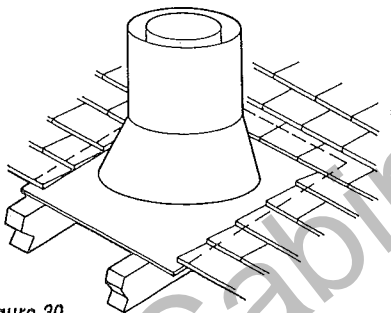

Figure 30
Step 7. Secure flashing by nailing along the perimeter into roof using 8d nails. If shingled roof, slide upper end and sides of roof flashing under shingles (trim if necessary), seal the top and both sides of the flashing to the roof with roof caulking. Cover nail heads with roof caulking (Figure 30).